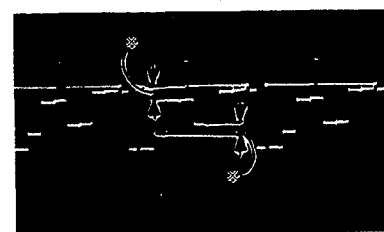

Fig. 23-1
3. Adjust RV3 of BD board so that the levels with \* is flat as shown in Fig. 23-1.